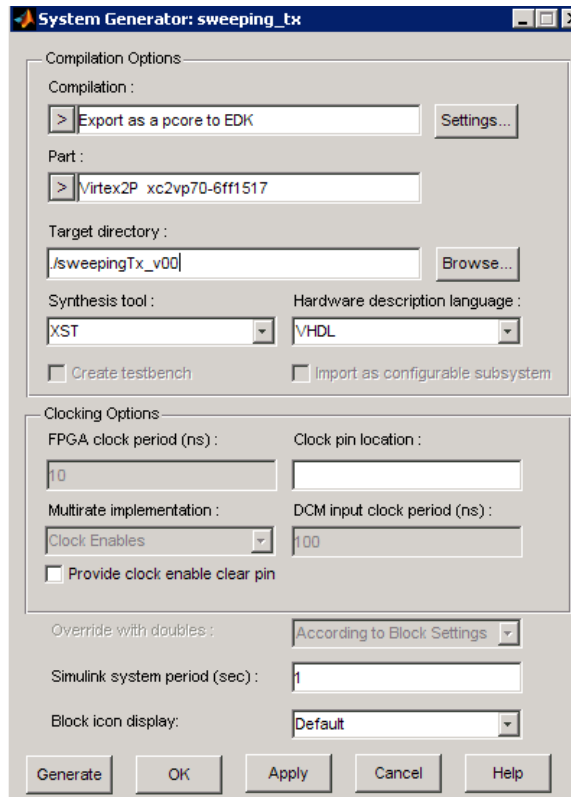

Figure 3: System Generator parameters for PLB core generation
3. Double-click the **System Generator** block. Make sure its parameters match those shown in Figure 3.